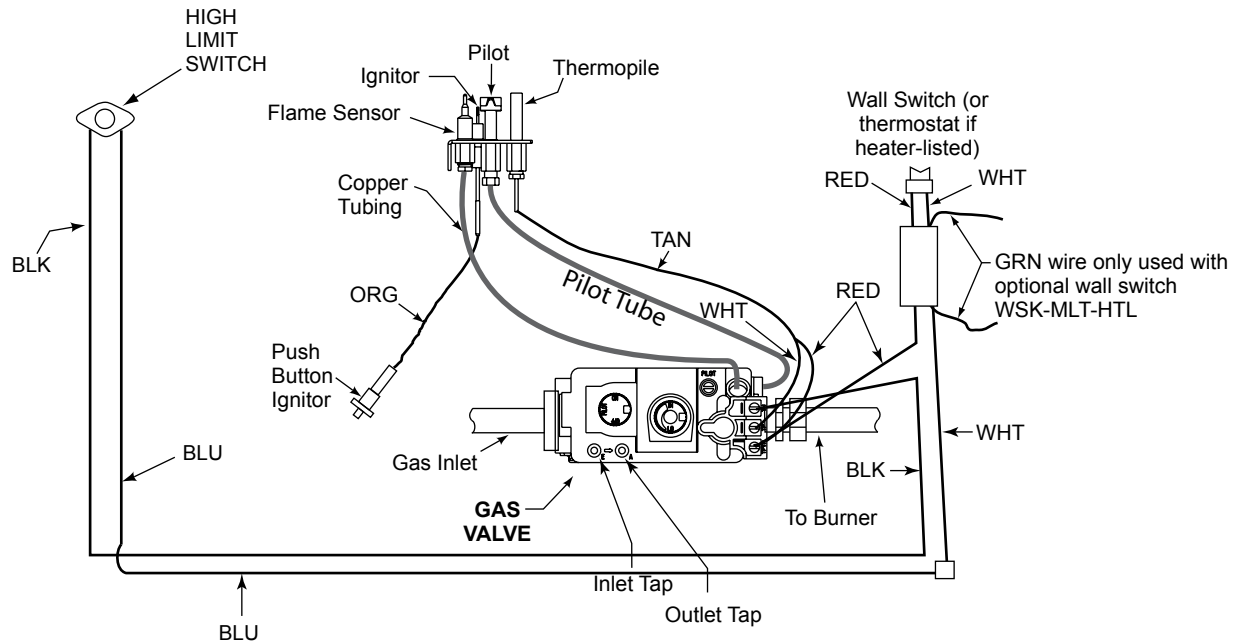

Figure 12.2 Standing Pilot Ignition Wiring Diagram
- Wire the junction box per the diagram in Figure 12.2.